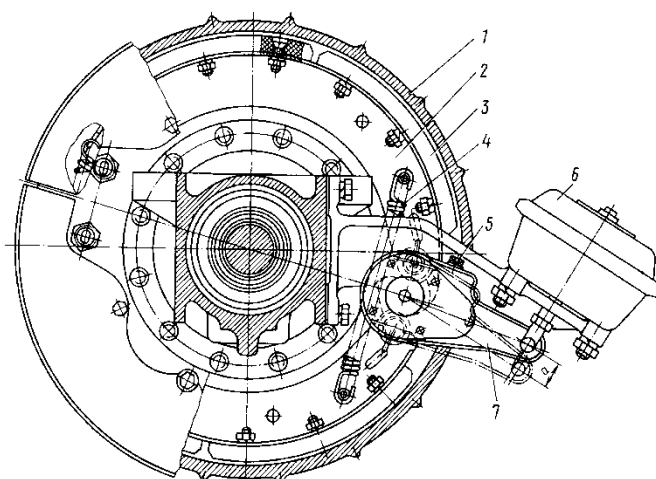

Fig. 44 Service brake
b) Depress the brake pedal and check the travel of brake chamber stems 6 (Fig. 44). Stem travel shall be within 30-45 mm, travel difference between the right-hand and left-hand stems shall not exceed 7 mm.